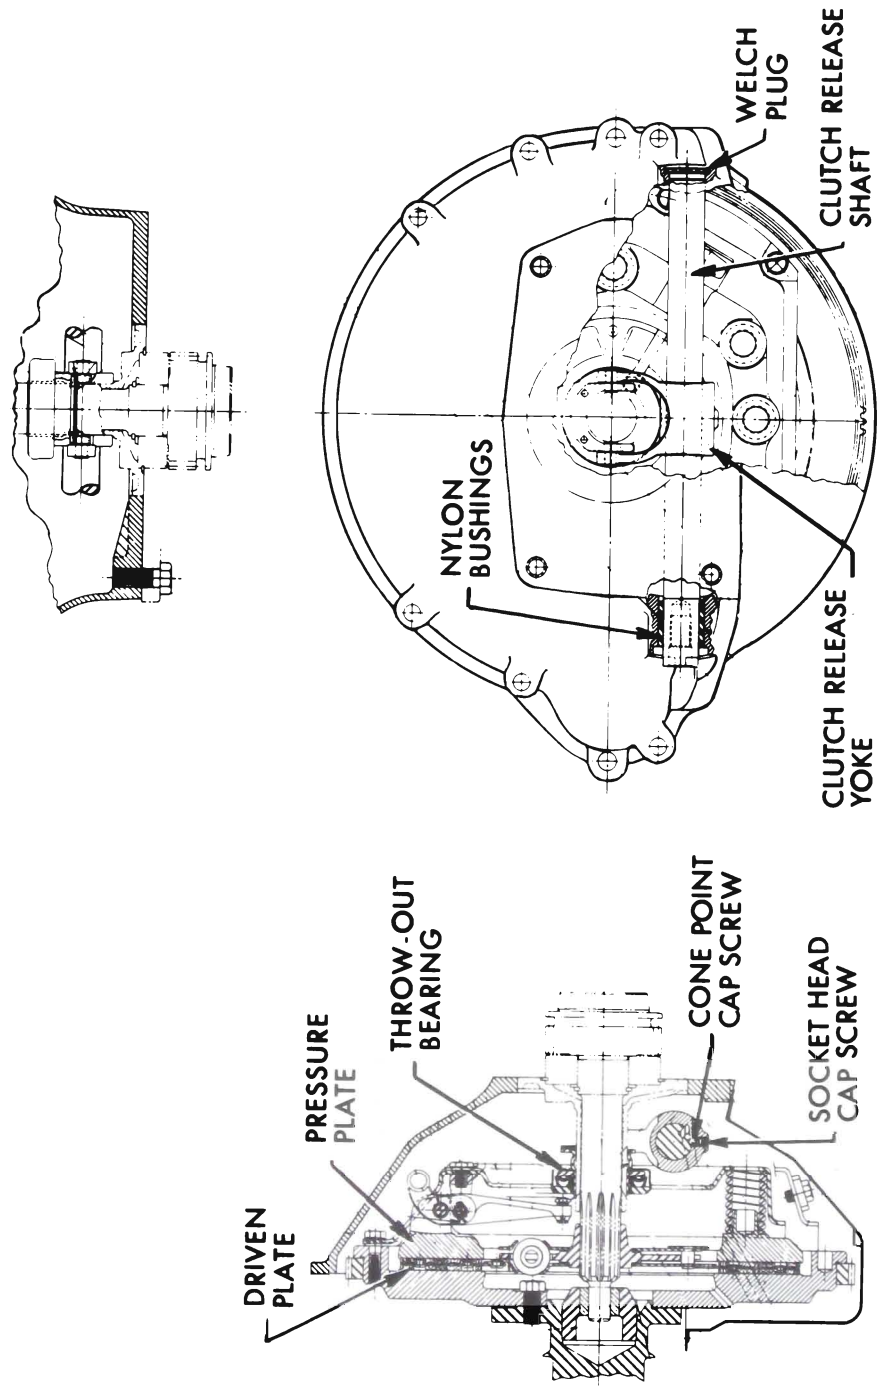

Figure 4-10—Clutch Information Assembly
The clutch release shaft pivots in the upper flywheel housing (see Figure 4-10). The clutch release shaft is retained in the upper flywheel housing by the clutch release fork and clutch equalizer (see Figure 4-10).
6. Remove clutch release seal (see Figure 4-10).
7. Remove nylon bushing (see Figure 4-10).
9. Pull clutch release shaft out approximately three (3) inches. Slide release yoke, woodruff key, throw-out and return spring bearing off end of release shaft. Remove release shaft.
yoke is installed so cone pointed cap screw can be installed into counter bore on shaft. (See Figure 4-10).
6. Install clutch release yoke over woodruff key. Install cone point socket head cap screw first. Install second socket head cap screw in same hole. (See Figure 4-10).